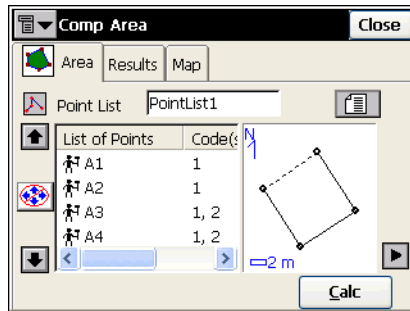

Figure 8-11. Area
1. Select a point list that contains the points constituting the vertices of the polygon (Figure 8-11). Use the arrow buttons to change the order of the points (and thus the shape of the polygon).